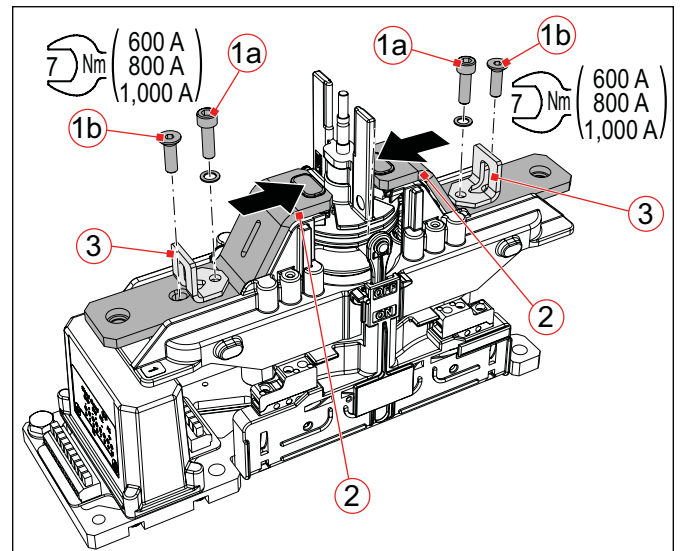

Fig. 41: 600 A, 800 A and 1000 A NO/NC contactors with arc chambers – install the fixed contacts
- ▶ Place the new fixed contact (2) on the contact carrier surface.
- ▶ Push the fixed contact (2) towards the centre of the magnetic drive as far as it will go.
- ▶ Screw on the fixed contact (2) with the two screws:
- ▶ For 600 A, 800 A and 1,000 A devices, place the bracket (3) on the fixed contact as shown in **Fig. 41** and screw on the bracket together with the fixed contact using the screw (1a) and the washer.
- ▶ To install the second fixed contact (2) repeat the steps above.